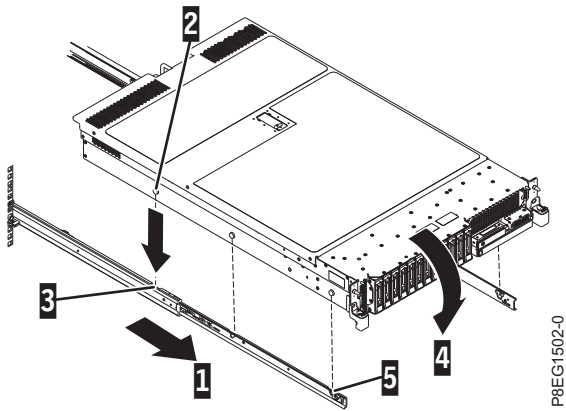

Figure 11. Extending slide rails and aligning server nail heads with the slots on the rail
- a. Extend the slide rails forward (1) until they click twice into place (if they are not already extended). See Figure 11 on page 12.
- b. Lift the server and tilt it into position over the slide rails so that the rear nail heads (2) on the server line up with the rear slots (3) on the slide rails. See Figure 11 on page 12.
- c. Slide the server down until the rear nail heads slip into the two rear slots. Then, slowly lower the front of the server (4) until the other nail heads slip into the other slots on the slide rails. See Figure 11 on page 12.
- d. Ensure that the front latch (5) slides over the nail heads. See Figure 11 on page 12.